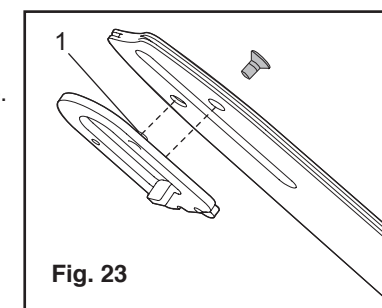

Fig. 23
If The Chain Bar Is Worn Out Or Damaged, take the chain tensioning catch off the bar by loosening the screw counter-clockwise. Then fit the tensioning catch into the new bar by tightening the screw clockwise. The catch protrude (1) must be fitted into the bar hole. (See Fig. 23)